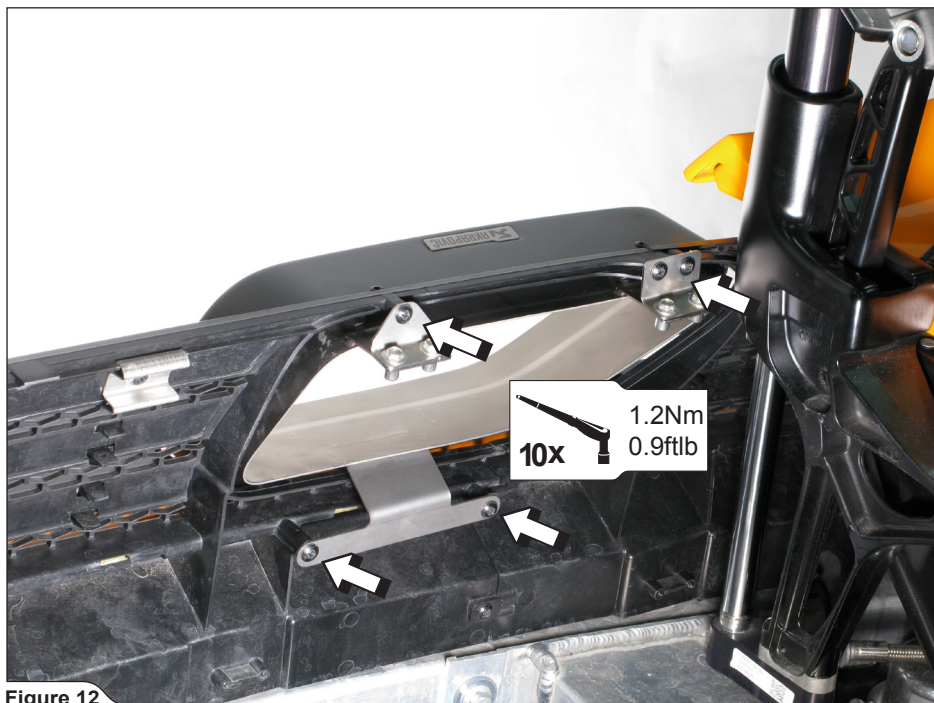

Figure 12
- Adjust and center both tail pipes in respect to the trim panel and rear bumper and screw on the tail pipes, using stock bolts (**Figure 12**).